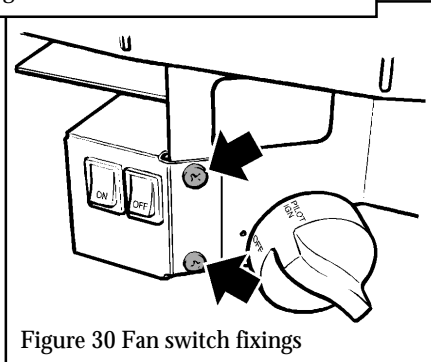

Figure 30 Fan switch fixings
14.5.6 To gain access to the pilot pipe connection, detach the fan switch bracket from the burner control bracket by removing two screws (see figure 30).
14.8.1 Detach the fan switch bracket from the burner control bracket by removing two screws (see figure 30). Carefully pull clear of the burner unit.